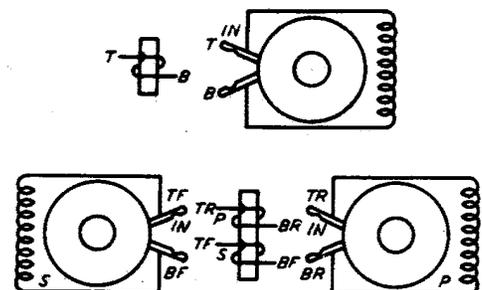

Fig. 44 – Winding Terminal Arrangement as Viewed From the Rear — 225-Type and Similar Automatic Electric Company Pivot Type Relays
2.52 The winding terminals are indicated by T (top) and B (bottom) with the spring combination uppermost. On relays with more than two winding terminals, the letters T and B are followed by the letters F (front) and R (rear), the armature end of the relay being considered the front. The springs in an assembly are consecutively numbered outward from the frame on which the assembly is mounted. Fig. 44 shows the winding terminal arrangement as viewed from the rear.